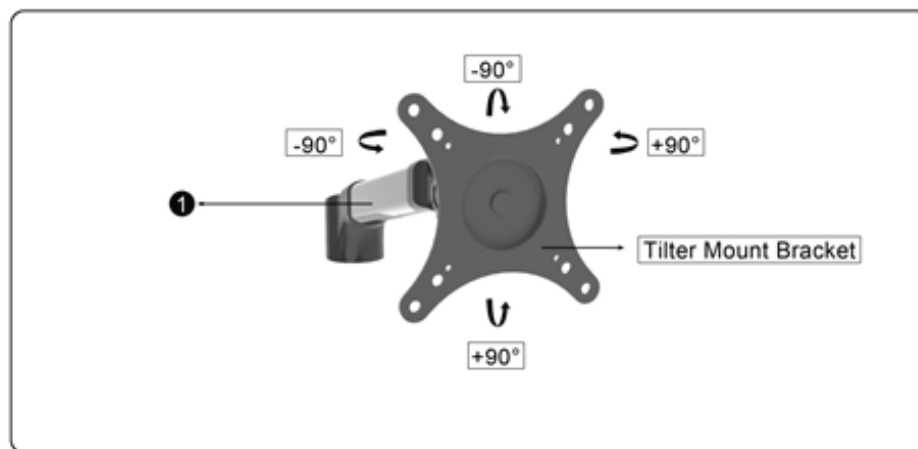

Figure 4
1. Ensure VESA Bracket on the LCD Arm (1) is able to swivel and tilt easily. (See Figure 4)